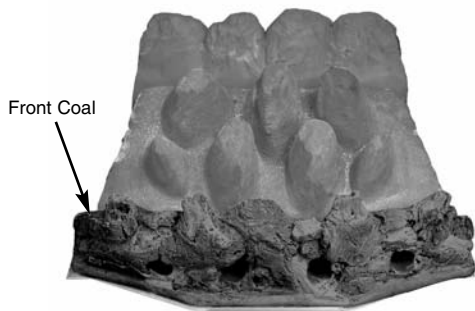

Fig. 44
3. Position the front coal on the front coal retainer, making sure that the back edge is pushed up against the front of the burner strip (Fig. 44).